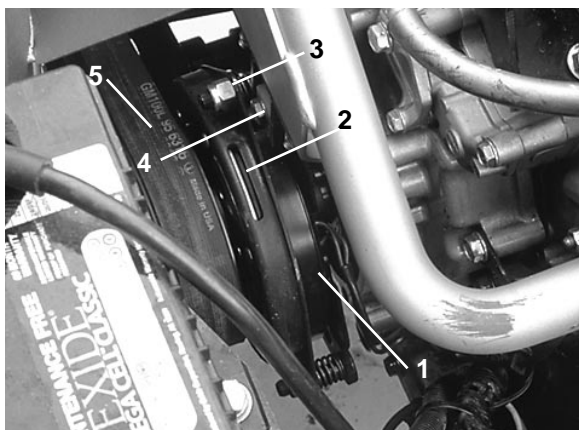

Figure 27
4. Rotate PTO pulley toward the engine and remove the belt (Fig. 27).
6. Tighten the jam nut (Fig. 27) and close the hood.
2. Remove the bolt and nut securing the nylon block and remove the nylon block (Fig. 27).
4. Adjust the air gap so that a .015 inch feeler gauge slides between the clutch lining and friction plate with light pressure (Fig. 27). The gap